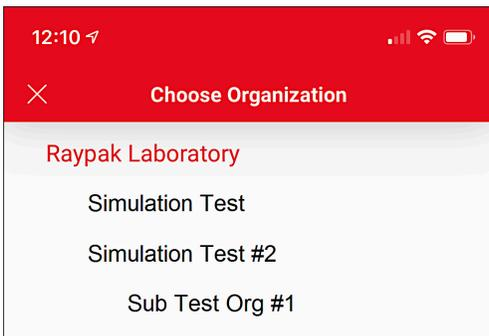

Figure 88. Organization Screen
3. “Choose organization” screen will be displayed and it will show all the available organizations and sub organizations to be able to select to view its devices. See **Figure 88**.